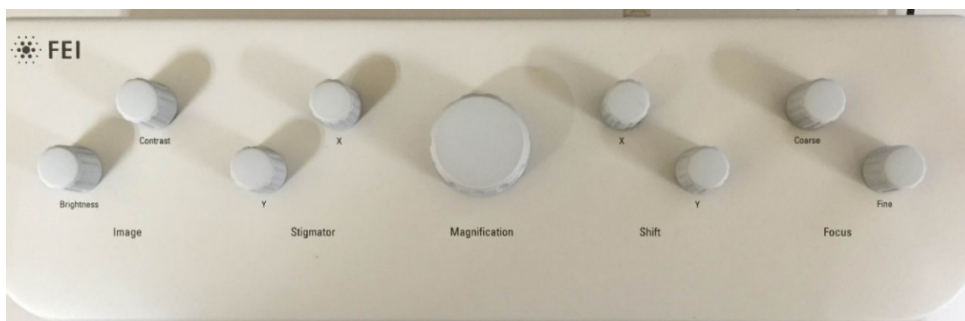

Figure 6
- 7.11 Navigate around to find a distinguishable feature on the sample surface. Click on **Reduced Area** icon (or F7) and use **Coarse** or **Fine** focus knob on the manual user interface (MUI, Fig. 6). Once the **Reduced Area** is focused, click any point on the image to return to the full-area scan.
- 8.2 Click on **Reduced Area** Icon and focus with **Coarse** then **Fine** knob on MUI. (Figure 6) Adjust stigmatism with **X** then **Fine** focus. Repeat stigmatism with **Y** then **Fine** focus. Save the desired image by clicking the pause button on upper menu banner. The scan will pause after one frame scanned. Save files in the 2nd computer: Desktop\shared data\users file\your folder name here\today's folder.